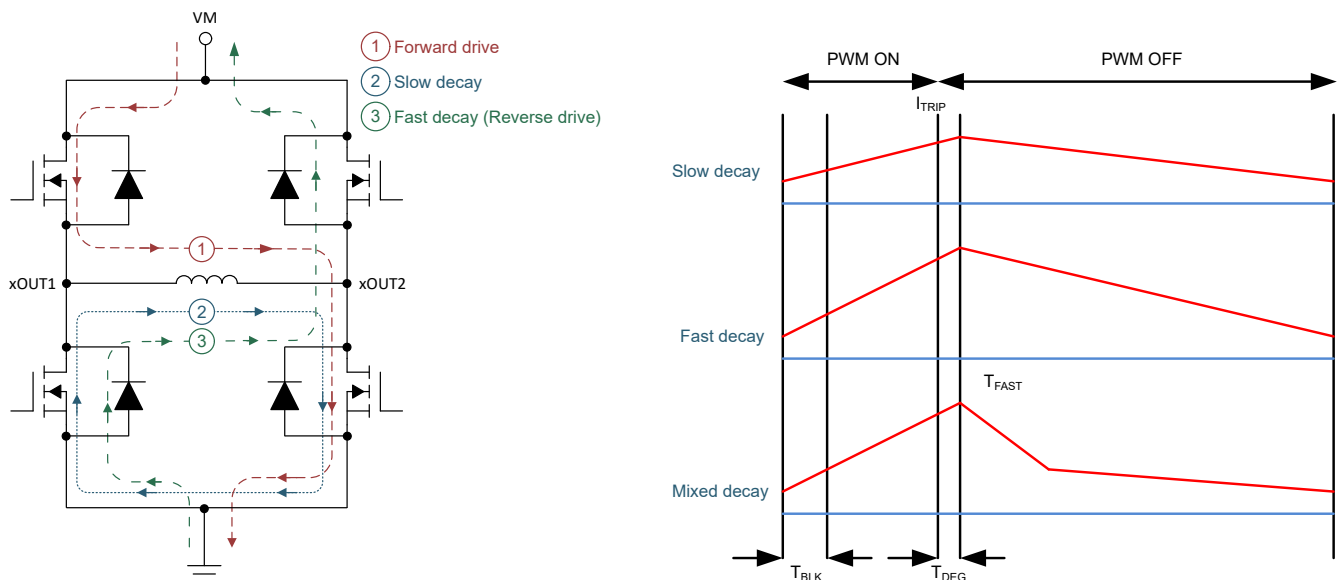

Figure 7-12. Decay Modes
During PWM current chopping, the H-bridge is enabled to drive through the motor winding until the chopping current threshold is reached. This is shown in Figure 7-12, Item 1.
- In fast decay mode, as soon as the PWM chopping current level is reached, the H-bridge reverses state by switching on the opposite arm MOSFETs to allow the winding current to flow in the opposite direction. As the winding current approaches zero, the H-bridge is disabled to prevent further reverse current flow. Fast decay mode is shown in Figure 7-12, item 2.
- In slow decay mode, the winding current is re-circulated by enabling both low-side MOSFETs in the H-bridge. This is shown in Figure 7-12, Item 3.